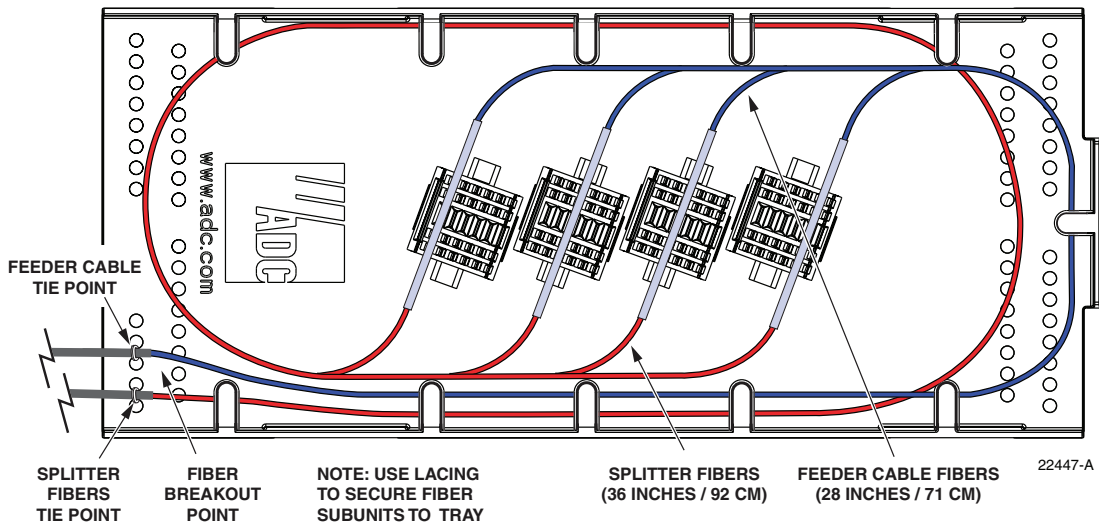

Figure 25. Stranded Fiber Splice Tray - Feeder Cable Splicing
10. Splice the feeder cable fibers to the appropriate splitter fibers as specified by local policies and procedures. Adjust and route the fibers within the splice tray as shown in Figure 25. Refer to Table 3 for the splitter fiber designations.